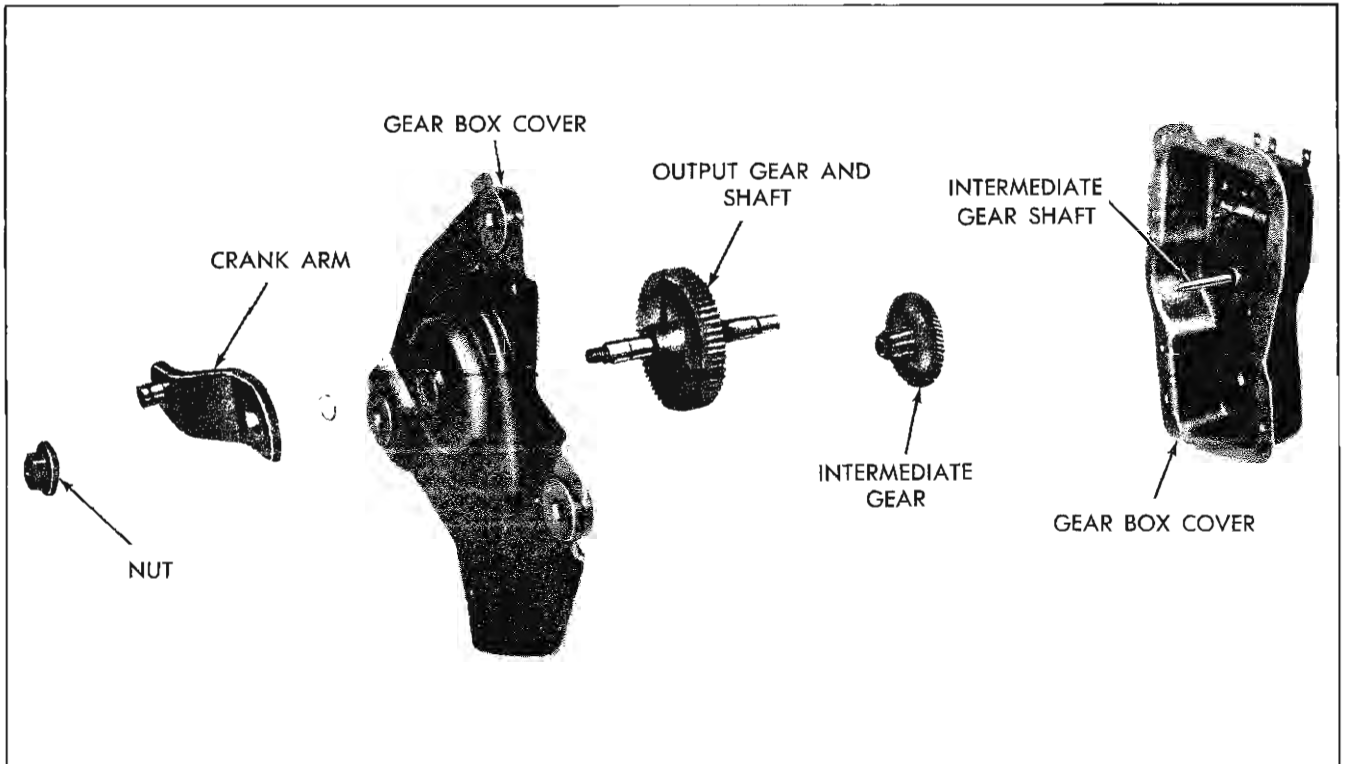

Fig. 11-68 Gear Box Exploded View
5. Remove output gear and shaft assembly, then slide intermediate gear and pinion assembly off shaft. (Fig. 11-68).